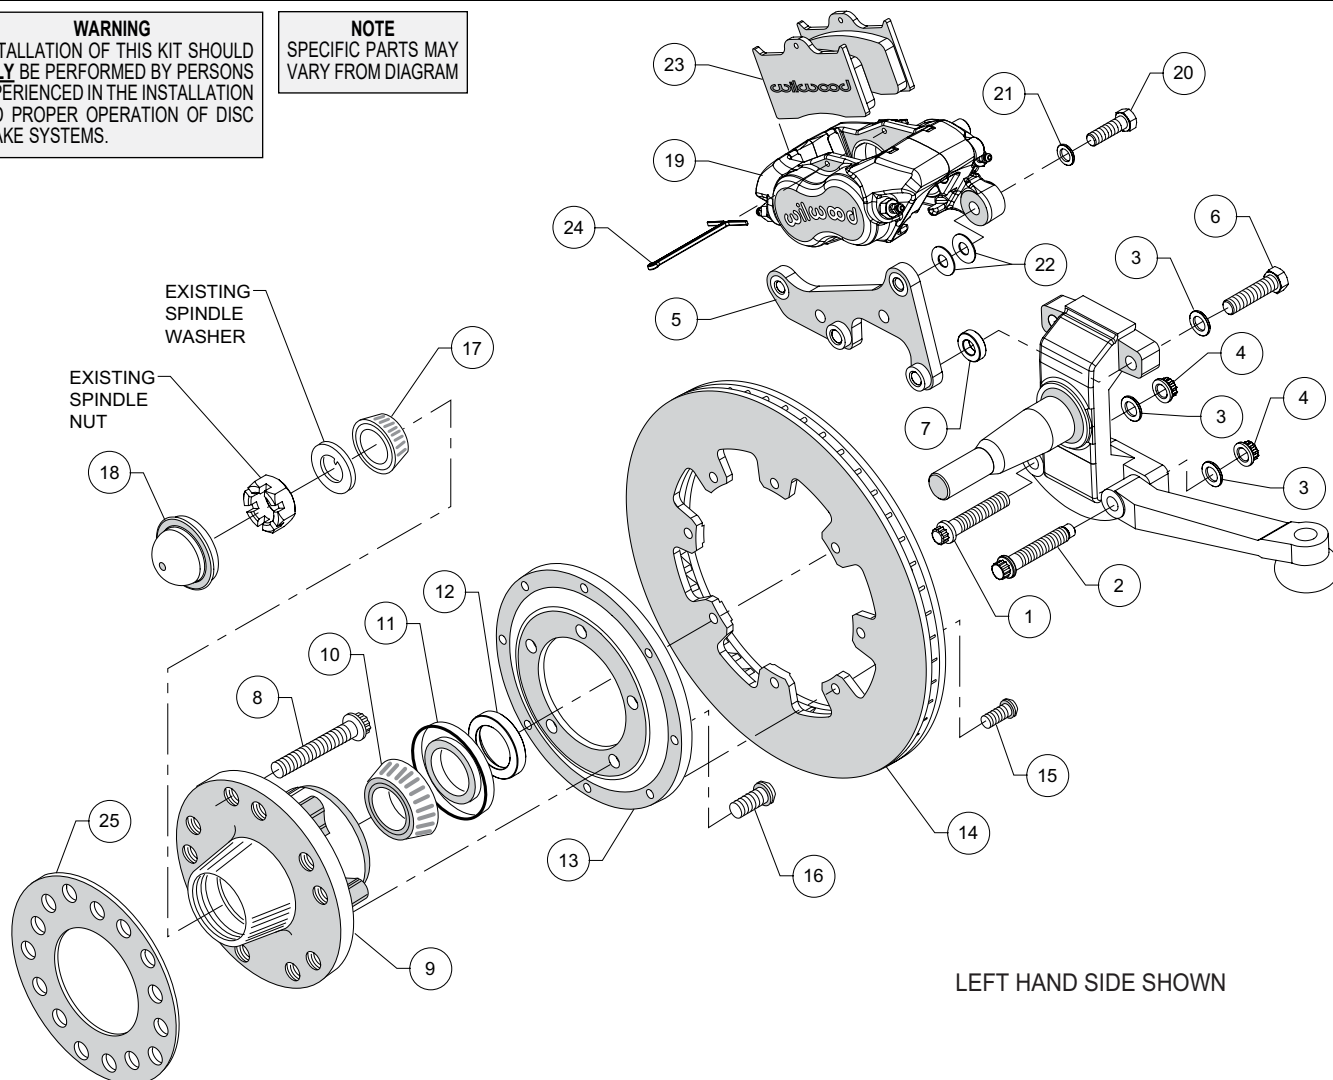
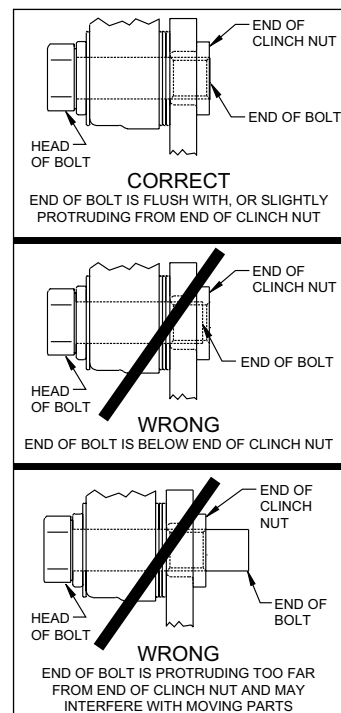

Figure 1. Typical Installation Configuration
Figure 3. Clinch Nut Engagement Diagram
NOTE: Numbers in parenthesis refer to the parts list and Figure 1 on the preceding pages.
CAUTION: All mounting bolts must fully engage clinch nuts. Be sure to check that all bolts are either flush or protruding through flanged side of clinch nut after shimming, Figure 3.
- One at a time, remove the two lower OEM bolts that secure the steering arm from the back side of the spindle. Replace with bolt (1), in the forward most hole, and bolt (2) in the rear hole, Photo 1. **NOTE:** The longer bolt with the end of the threads turned down is the steering stop. The new bolts are installed in the opposite direction as the original bolts, from the outside, Photo 2. Secure bolts using washer (3) and nut (4) as shown in Figure 1. Torque nuts to 47 ft-lb.
- Orient the caliper mount bracket (5) as shown in Figure 1 and Photo 2, and install using bolts (6) and washers (3). Place spacers (7) between spindle and bracket. Ensure that the flanged heads of the clinch nuts in the bracket are facing outboard, Photo 2. Temporarily tighten the mounting bolts. **NOTE:** The bracket must fit squarely against the mount bosses on the upright. Inspect for interference from casting irregularities, machining ridges, burrs, etc. Remove bolts one at a time, apply red Loctite® 271 to the threads and torque to 60 ft-lb.
- Install the grease seal (11) by pressing into the backside of the hub (9), flush with the end of the hub, Photo 4.
- Orient the rotor (14) and the rotor adapter (13) as shown in Figure 1 and Photo 5. Attach the rotor to the adapter using bolts (15). Using an alternating sequence, apply red *Loctite*® 271 to the threads, and torque to 25 ft-lb.
- Mount the adapter/rotor assembly (13/14) to the hub (9) using bolts (16), as shown in Figure 1 and Photo 6. Using an alternating sequence, apply red *Loctite*® 271 to the threads, and torque to 45 ft-lb.
- Slide the bearing spacer (12) onto the spindle. Ensure the chamfered I.D. faces inward, Photo 7.
- Pack the small outer bearing cone (17) with high temperature disc brake bearing grease and install into hub (9). Slide the hub/rotor assembly onto the spindle. Secure using OEM spindle washer and nut, Photo 8. Adjust bearings by tightening the wheel bearing nut to 60 **in-lbs.** while turning the hub/rotor assembly. Back off the adjusting nut one slot and install a new cotter pin (not supplied). **The resulting adjustment should be zero (no pre-load to 0.003 inch end play).**
- Press the dust cap (18) into the hub (9), Photo 9.
- NOTE:** Please reference the caution statement at the beginning of the assembly instructions. Mount the caliper (19) onto the caliper mounting bracket (5) using bolts (20) and washers (21), as shown in Figure 1. Initially place two .035" thick shims (22) on each bolt between the caliper and the bracket, Photo 10. Temporarily tighten the mounting bolts and view the rotor (14) through the top opening of the caliper. The rotor should be centered in the caliper, Photo 11. If not, adjust by adding or subtracting shims between the bracket and the caliper. Always use the same amount of shims on each of the two mounting bolts. **NOTE:** The end of each bolt must be flush with or slightly protruding from the head of the clinch nut, as shown in Figure 3. If necessary place spare shims between washer (21) and caliper mounting ear to achieve the proper clinch nut engagement. Once the caliper alignment and clinch nut engagement are correct, remove the bolts one at a time, apply red *Loctite*® 271 to bolt threads, and torque to 40 ft-lb.
- Install the disc brake pads (23) into the caliper, with the friction material facing the rotor (14), and secure in place using cotter pin (24), Photo 12.
- Install wheel spacer (25) as shown in Figure 1 and Photo 13. Temporarily install wheel and torque lug nuts to manufacturer's specification. Ensure that the wheel rotates freely without any interference. **NOTE:** Wheel spacer (25) **MUST** be used if any wheel contact surfaces overhang the outside diameter of the hub face. See warning on page 3.